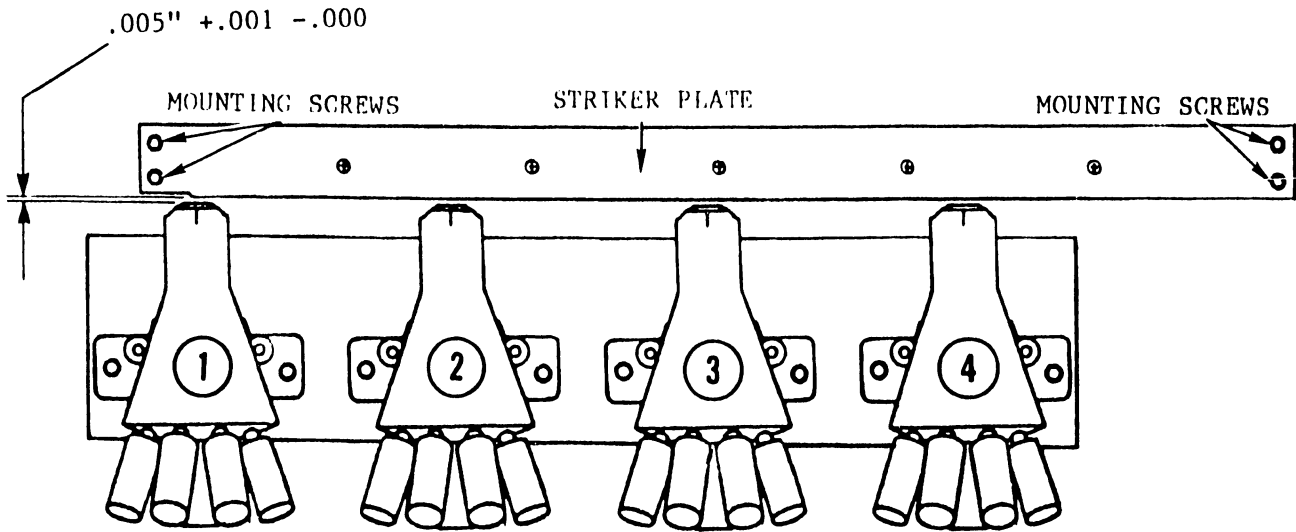

FIGURE 1
5. Using a feeler gauge, measure the gap from print head bearing #1 (leftmost head) to the striker plate. See Figure 1. This gap should be $.005'' + .001'' - .000''$. Note the exact measurement and continue with the next step.